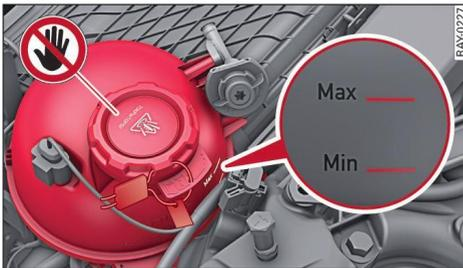

Fig. 124 Front compartment: Coolant expansion tank
- ▶ Read the coolant level on the outside of the expansion tank. When the coolant is cold, the coolant level should be between the MIN and MAX marks ⇒ Fig. 124. The coolant level on new vehicles may initially be slightly above the top mark.